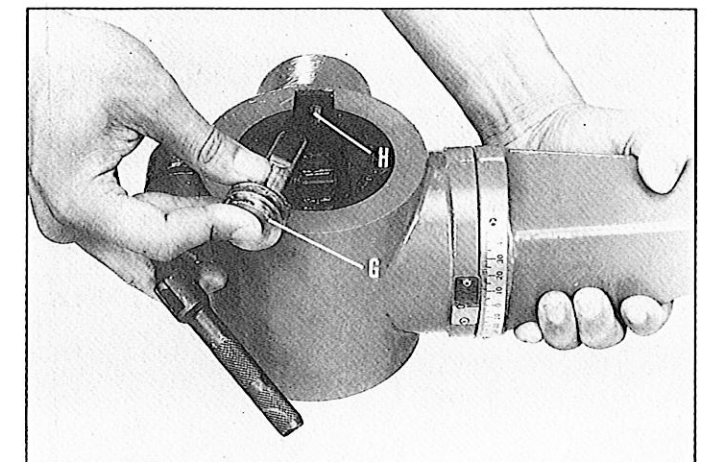

Fig 3
2. Assemble worm gear (G) to hole (H) in table bracket, as shown in Fig. 3.